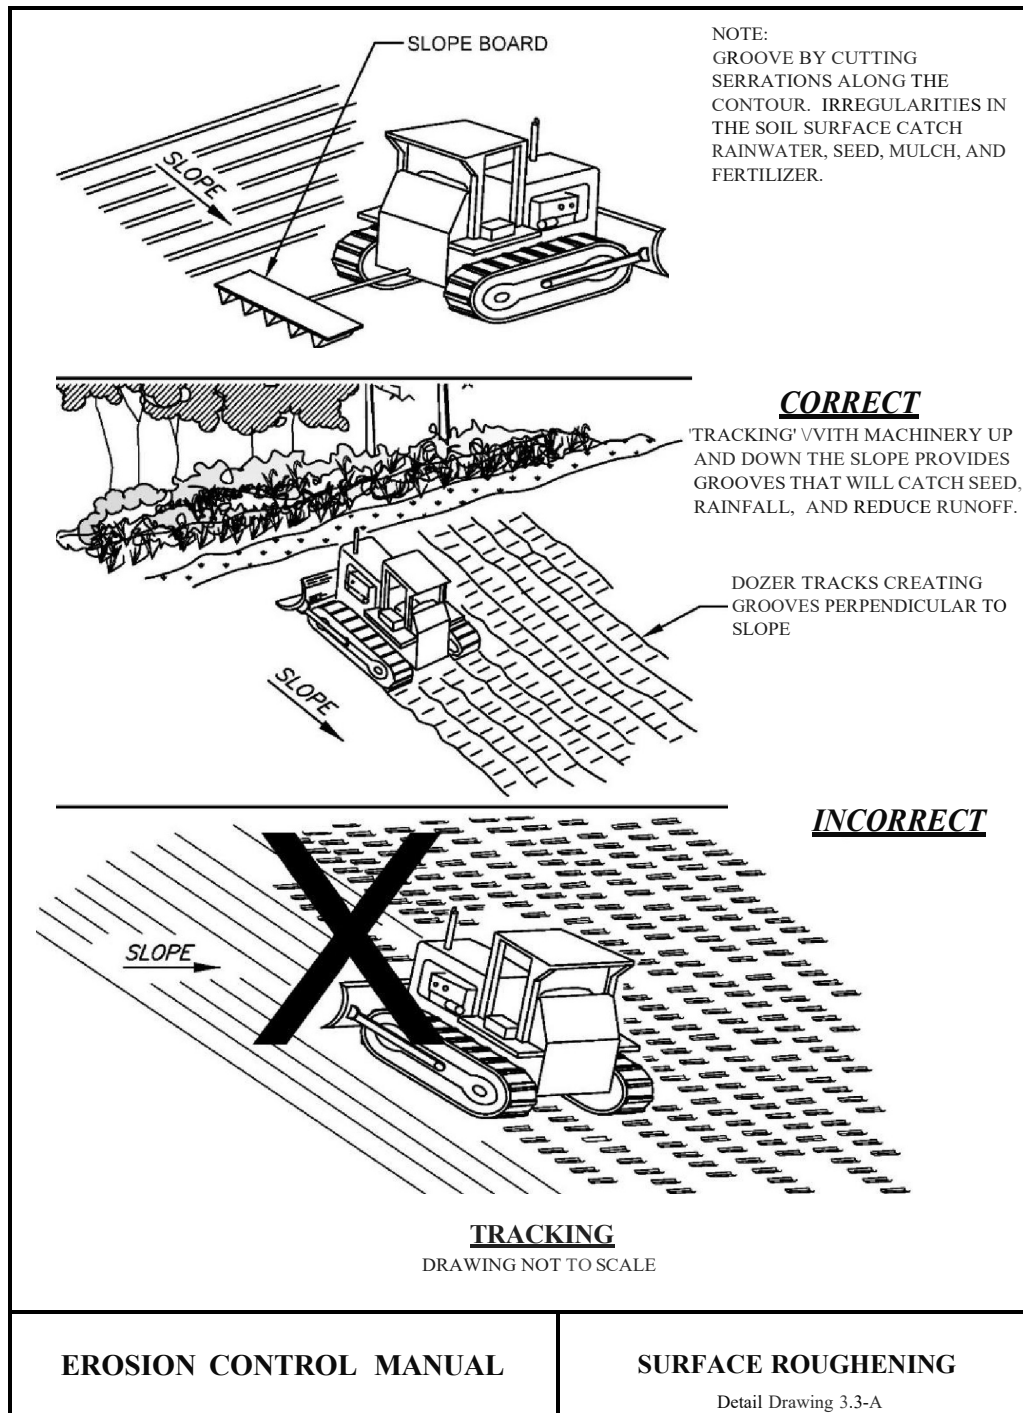

Figure 3: Graphic showing proper implementation of soil roughening
- Employ soil roughening techniques (See Figure 3) by driving tracked vehicles, creating irregular patterns to disrupt runoff flow. Methods include: